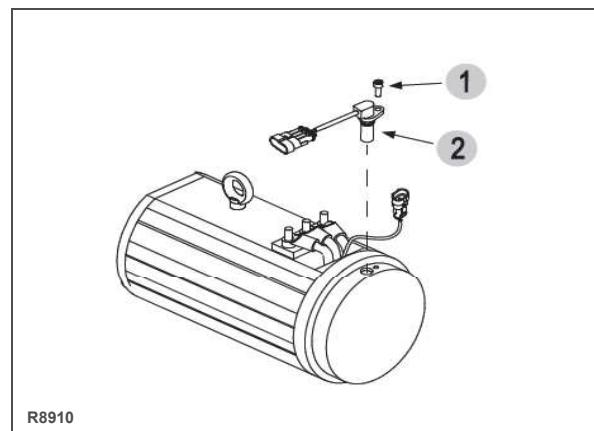

Figure 9-2 Pump Motor Speed Encoder
3. Disconnect the AMP connector on the speed encoder(2, Figure 9-2).
4. Remove the screw (1) from the drive motor and remove the speed encoder.